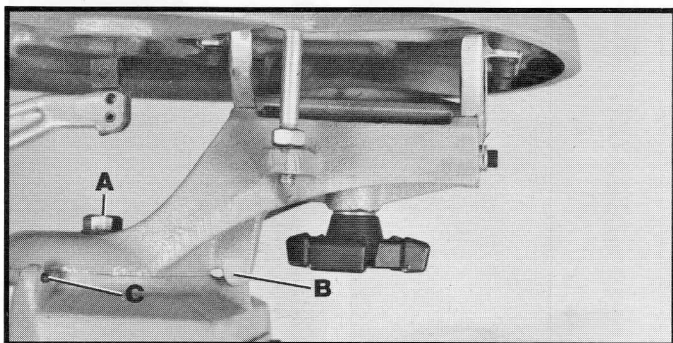
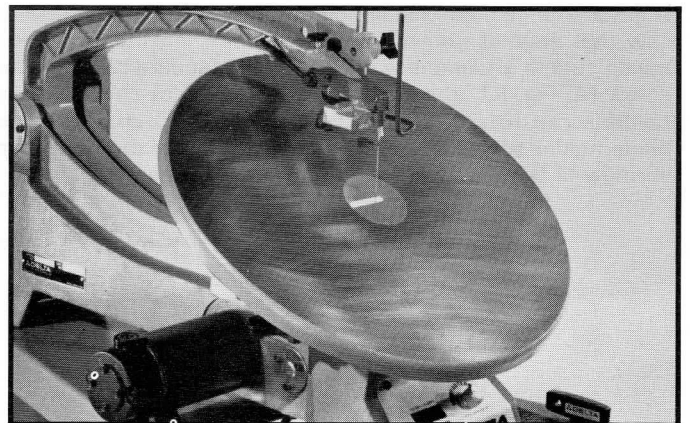

Fig. 28
Fig. 29
The table can be rotated 90 degrees by loosening screw (A) Fig. 28, and rotating the complete table bracket assembly to the left until stop (B) contacts set screw (C). Then tighten screw (A). This enables you to tilt the table forward, as shown in Fig. 29, for special cutting operations.